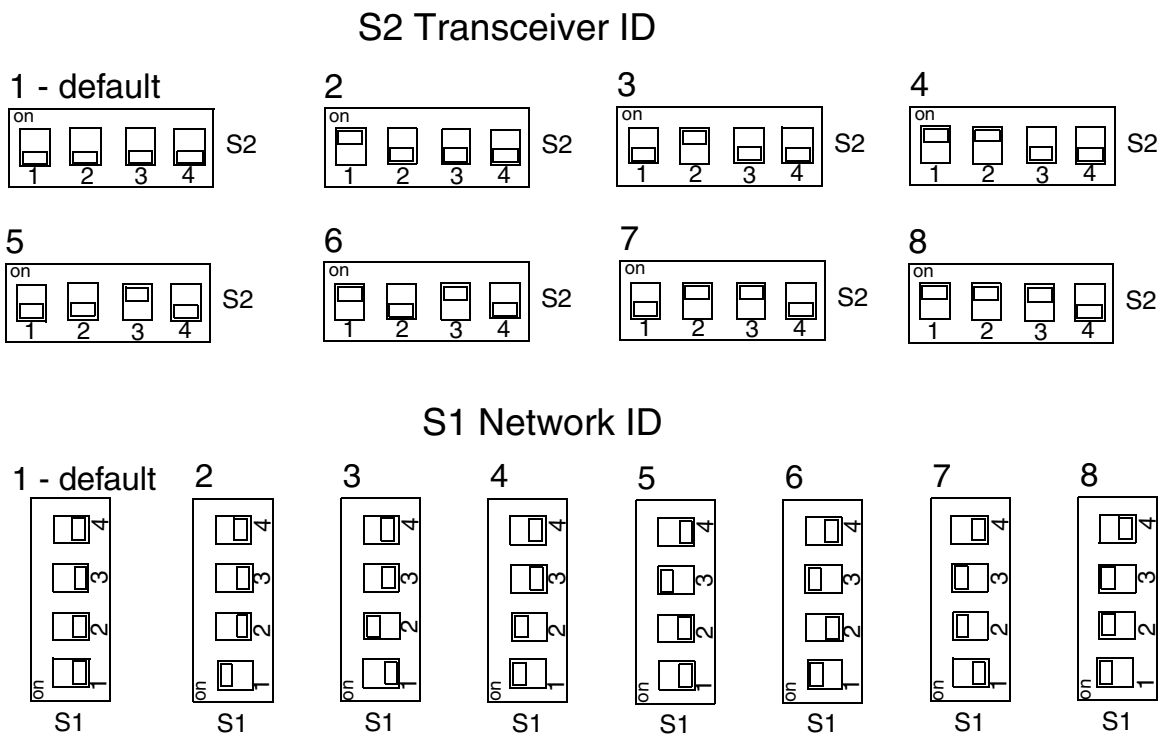

FIG. 3
There are 8 Network ID's and 8 Transceiver ID's possible by changing the position of the dipswitches. The eight positions are identified as 1, 2, 3, 4, 5, 6, 7 and 8. See FIG. 2 and FIG. 3 on pages 4 and 5.
- Remove the protective plastic over cover (5) on the TLM display that was used for shipping and discard.
- Remove the four screws (3) holding the tank monitor cover (7) in place.
- Remove the cover (7).
- Remove the insulating foam (4) to access the circuit board.
- If installed, remove batteries (1).
- Set the S1 and S2 settings to match those of the transceiver that this TLM will communicate with (FIG. 2 and FIG. 3).
See FIG. 3 for dipswitch setting configurations.